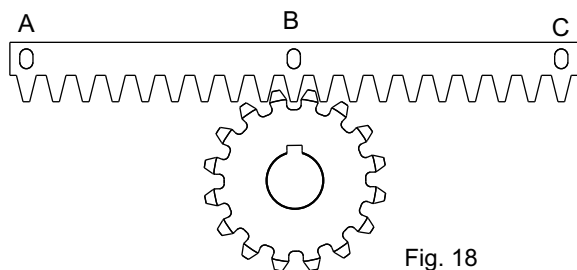
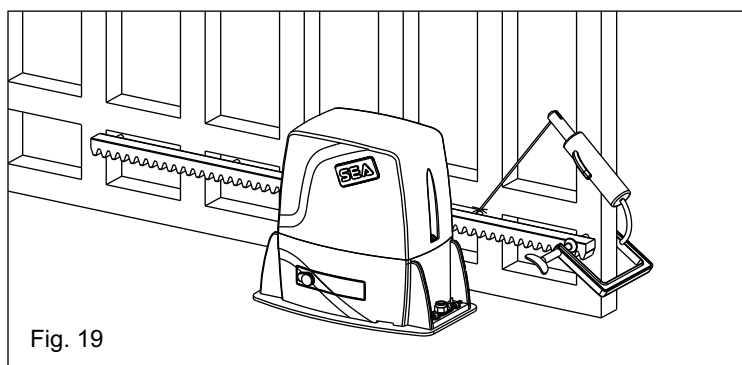

Fig. 18
Fig. 19
7.3. Lean the gear rack element on the toothed pinion of the motor in parallel to the ground slideway of the gate, as shown in Fig. 18 and electrically weld the central pawl B to the gate structure (Fig. 19).